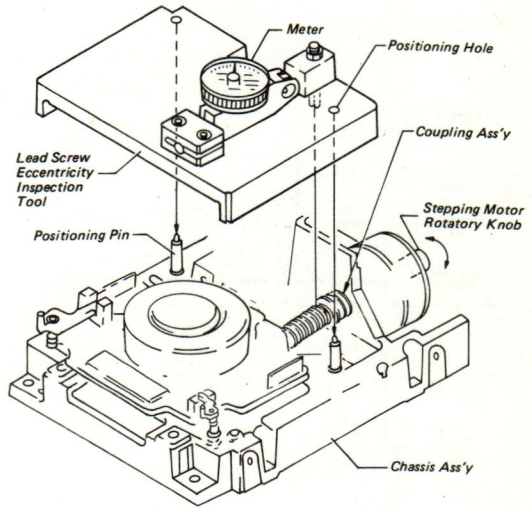

Fig. 5-1 Lead Screw Eccentricity Adjustment
- e. Aligning the positioning hole of the lead screw eccentricity tool to the positioning pin on the chassis ass'y, set the lead screw eccentricity inspection tool in place. (Refer to Fig. 5-1)